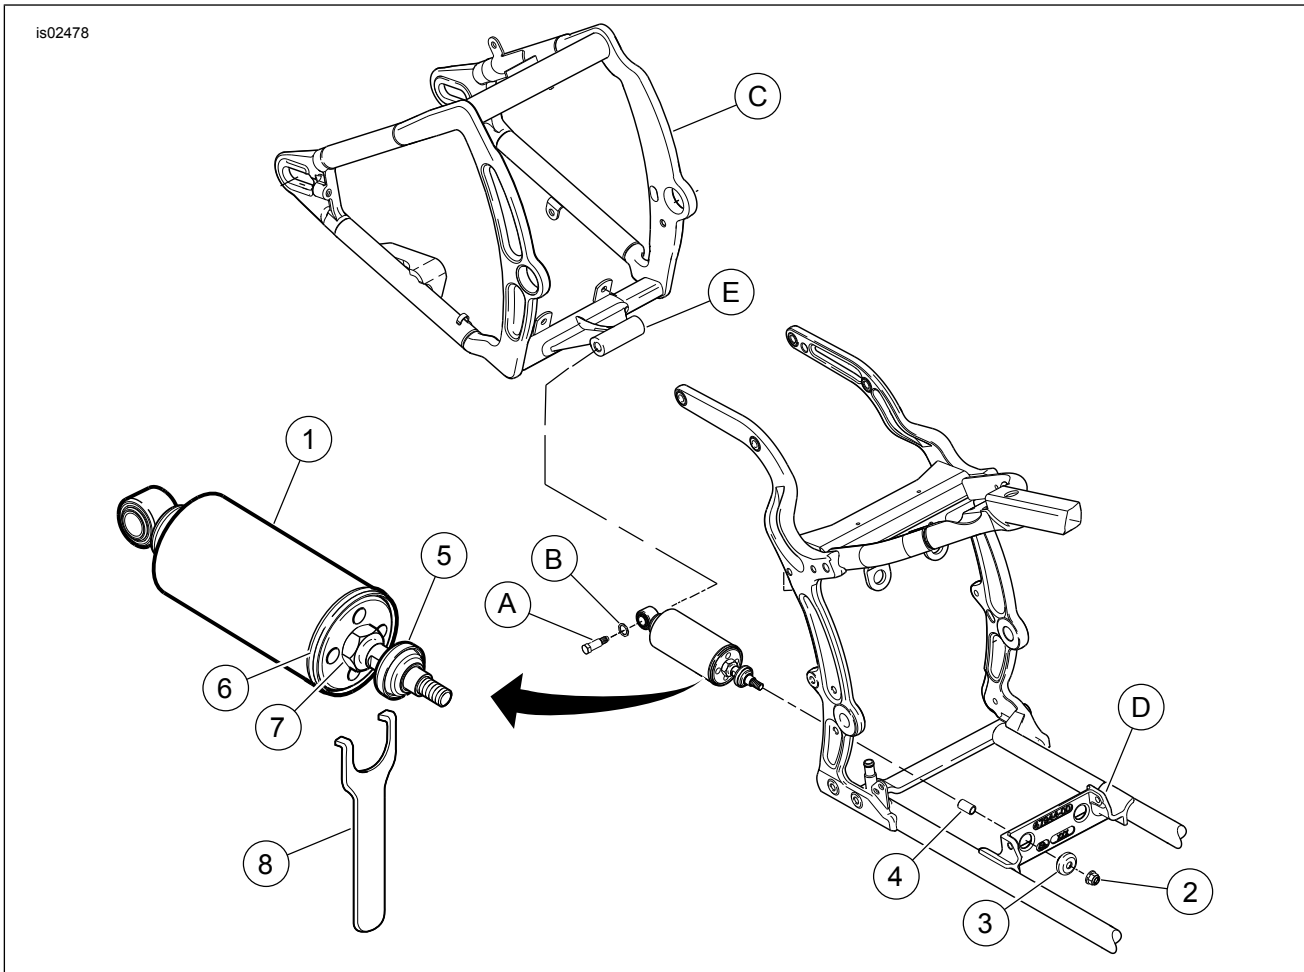

Figure 1. Service Parts: Softail Profile Low Rear Shock Absorber Kits
See Figure 1 and Table 1.
4. See Figure 1. Remove stock bolt (A) and washer (B) that fasten each shock absorber (1) to rear fork (C). Save for later use.
5. Remove flanged locknut (2) and washer/grommet assembly (3) fastening each shock absorber (1) to frame crossmember (D). Discard shock absorber and attaching hardware from threaded end of shock.
1. See Figure 1. Remove flange nut (2) and outer washer/grommet (3) from the Profile[®] Low rear shock absorber (1). Leave bushing (4) and inner washer/grommet (5) on shock absorber shaft.
2. Insert shock absorber shaft through frame crossmember (D).
3. Slip outer washer/grommet (3) onto the shock absorber shaft (grommet side first), and loosely fasten with flange nut (2). Check that washer/grommet properly fit hole in frame crossmember. Do not tighten at this time.
5. Align shock absorber eye with rear fork mount (E) by adjusting rear wheel height with screw jack.
6. Fasten shock absorber (1) to rear fork (C) with stock washer (A) and bolt (B) previously removed.
8. See Additional Parts Required. Tighten each rear shock mounting bolt (A) to 121-136 ft-lbs (164.1-184.4 Nm).
1. See Figure 1. Place a mark in the same position on the adjuster plate (6) of each shock absorber.
2. Loosen jam nut (7) on each shock absorber.